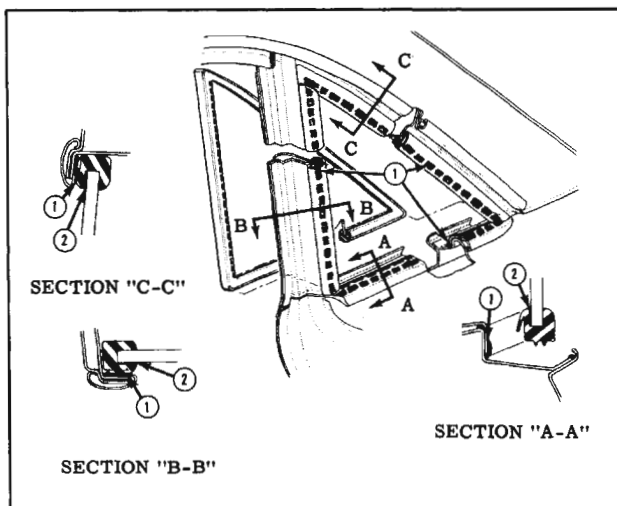
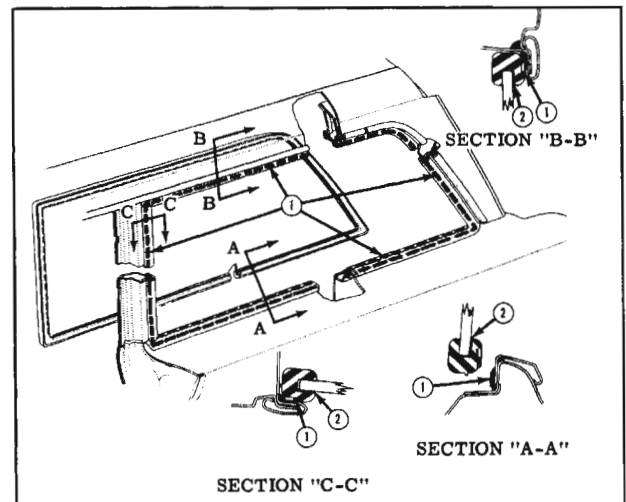

Fig. 16-275 Rear Quarter Window Sealing
Fig. 16-276 Quarter Window Sealing (35 Style)
3. To install rear quarter window, first clean off all old sealer from rubber channel and window opening rabbet. Install rubber channel to window. Apply a bead of medium-bodied sealer to wall of window opening rabbet, completely around window opening to effect a seal between body and rubber channel ("1" in Fig. 16-275 for "19" styles, and Fig. 16-276 for "35" styles).
4. Position window assembly into opening and loosely install window retainers. Using a pressure type applicator, apply weatherstrip adhesive (black) between rubber channel and outside surface of glass ("2" in Fig. 16-275 for "19" styles and Fig. 16-276 for "35" styles).